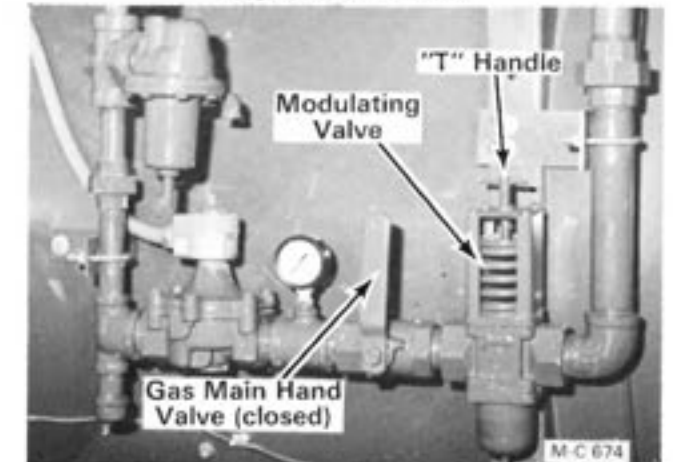

Figure 35 - LP Gas
2. Close the gas main hand valve for each burner (handle 90° to the piping), see Figure 35.